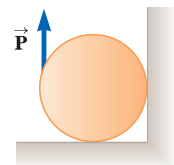

Figure P12.67
67. Figure P12.67 shows a vertical force applied tangentially to a uniform cylinder of weight F_g . The coefficient of static friction between the cylinder and all surfaces is 0.500. The force \vec{P} is increased in magnitude until the cylinder begins to rotate. In terms of F_g , find the maximum force magnitude P that can be applied without causing the cylinder to rotate. *Suggestion:* Show that both friction forces will be at their maximum values when the cylinder is on the verge of slipping.